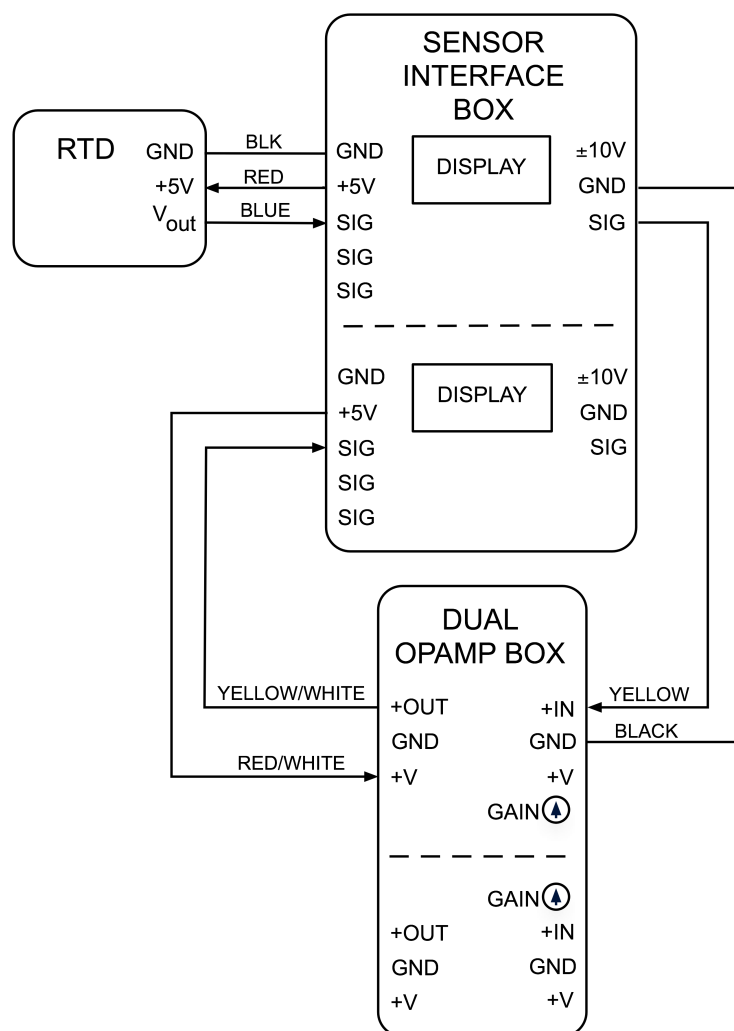

Figure 8 - Wiring diagram for RTD and Red op-amp box.
6. As shown in Fig. 8, connect RTD to the sensor interface box (SIB) Channel 2.